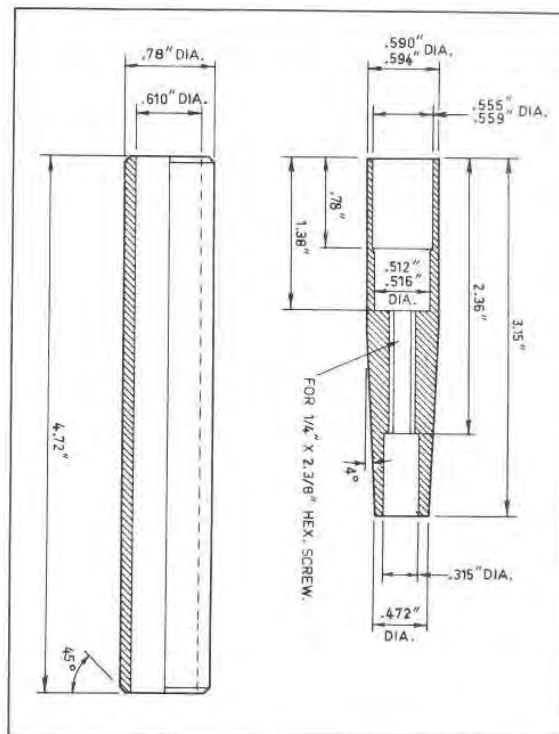

Fig. E22 — Snap Ring Expander Tool
2. Assemble the stop ring to the armature shaft and using the expanding tool shown in Fig. E22 fit a new snap ring. Fit the expander against the armature shaft and turn the expander screw in or out until the shaft ring groove is just exposed. Slide the snap ring over the expander and push it forward until it springs into the groove. Remove the tool, compress the snap ring and work the stop ring over the snap ring.